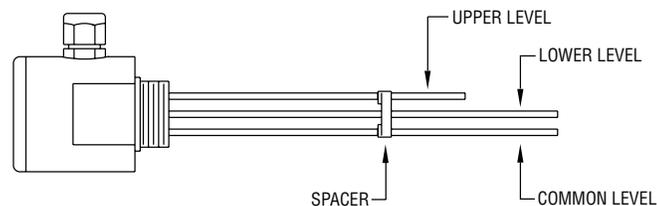

FIGURE 1
2. Cut two (2) probes to the same length, these will be the common and lower level probes. See Figure 1.
3. Cut one (1) probe to the desired length for the upper level of the tank. See figure 1.